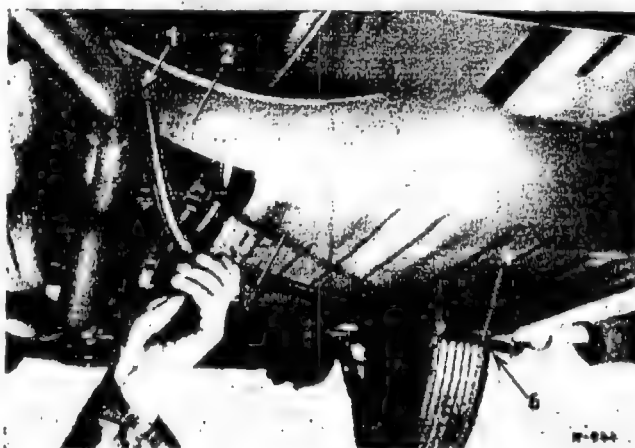

Fig. 40-3/12
The gage is fitted to the check bore (1) in the cross member (2) on the chassis base panel. Then the distance left and right from the center (6) of the rear axle shaft is measured on the left and on the right (Fig. 40-3/12).